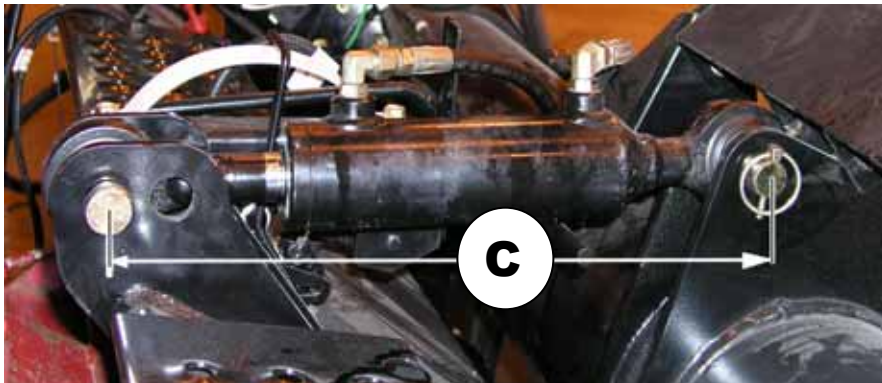

Fig. 2 Center Link Dimension
- It is recommended to set float for most conditions with the center cylinder set to dimension (C) shown in Fig. 2. Pin to pin length of 490mm (19.5"). Some adapters (depending on combine) will use the front hole in adapter but measurement will be the same.